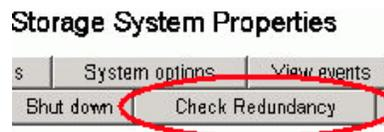

Figure 33 Checking redundancy
2. On the Initialized Storage System Properties window, click **Check Redundancy** (Figure 33).